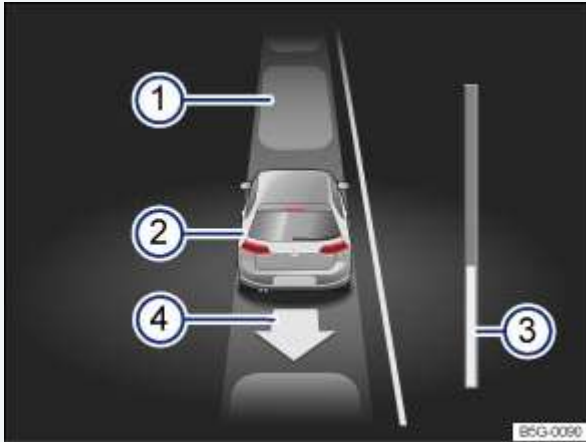

Fig. 181 In the instrument cluster display: Driving out of a parallel parking space.
Key to ⇒ Fig. 181 :
The progress bar ⇒ Fig. 181③ displays the distance left to be traveled ⇒ Progress bar .